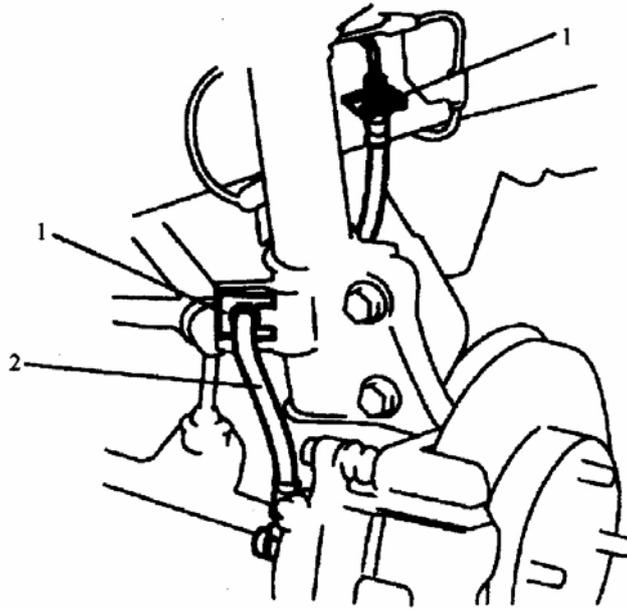

FIG.16-15
- (1) Clean caliper.
- (2) Remove brake hose from caliper.(FIG.16-15)